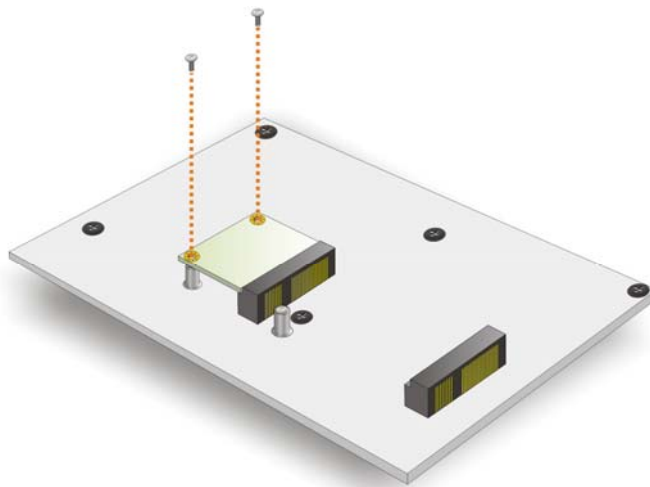

Figure 4-17: Secure the Half-size PCIe Mini Card
Step 4: Secure the half-size PCIe Mini card. Secure the half-size PCIe Mini card with the two retention screws previously removed (Figure 4-17).